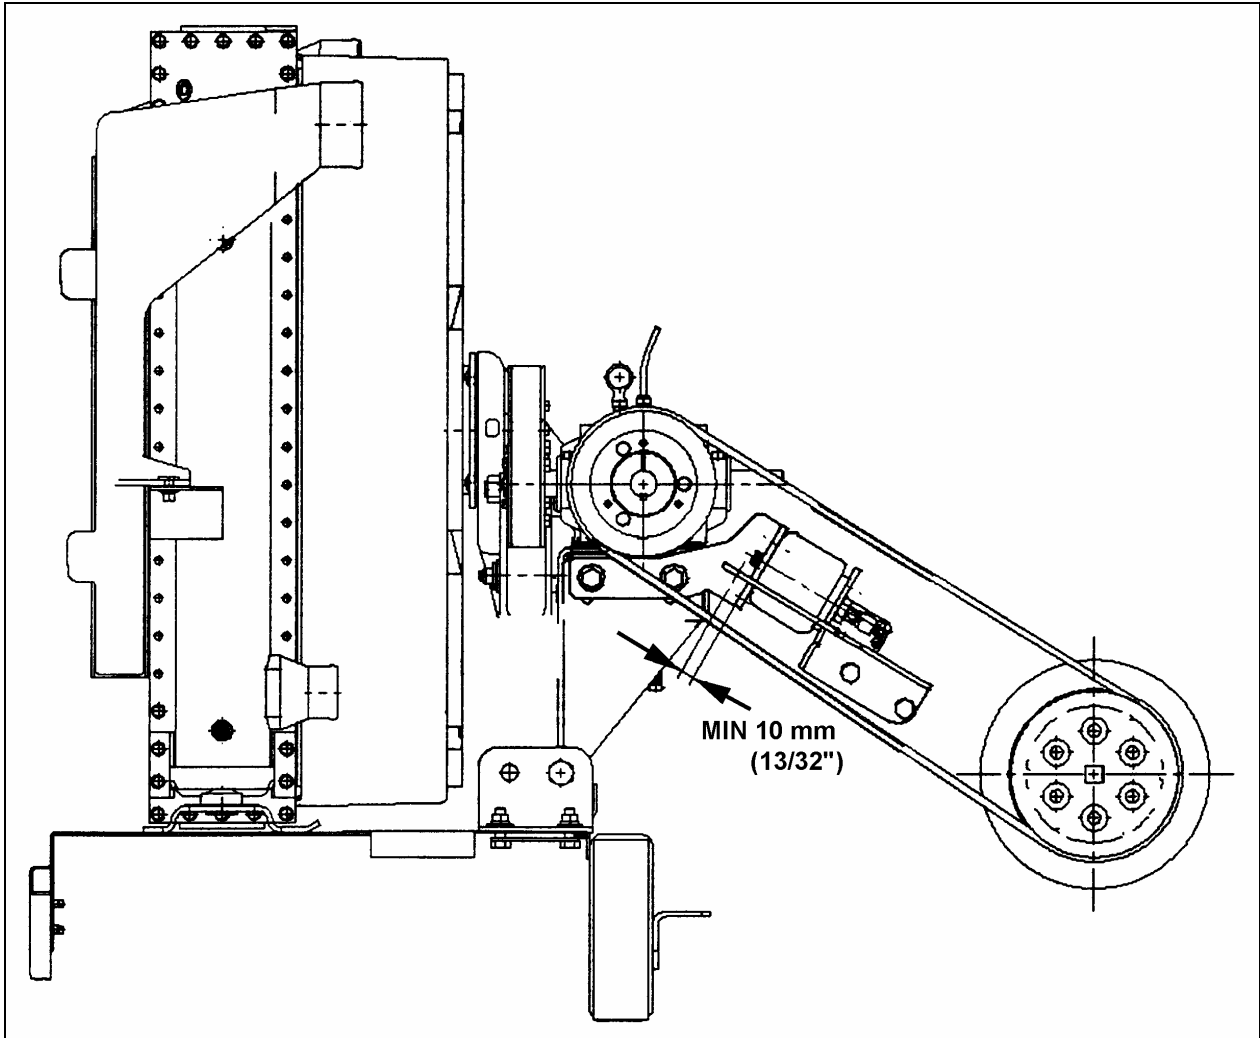

FIGURE 6
8. Check if the distance between the air bellows top plate and the stop is approximately 13/32" (10 mm) (Refer to figure 6).